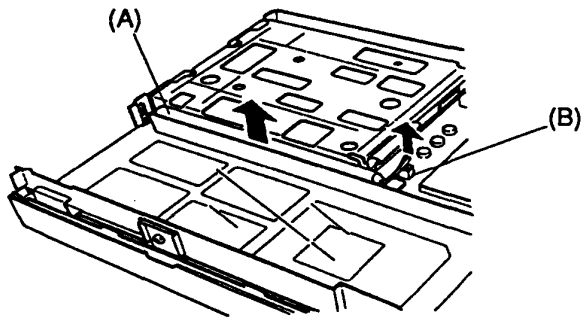

Figure 4-19 Disconnecting the sub battery
3. Disconnect the sub battery (A) from PJ2 (B) on the system board (Figure 4-19).
3. Connect the sub battery to PJ2 on the system board and place it into position at the front of the battery pack case (Figure 4-19).